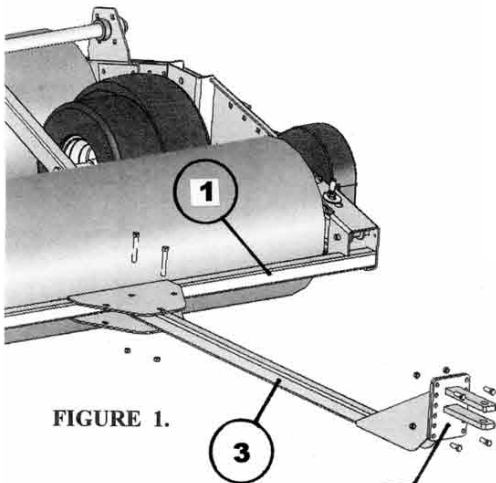

FIGURE 1.
- 1 Assemble Tongue (#3) to Frame (#1) as shown using (2) 3/8-16 x 2 1/2" long carriage bolts with (2) 3/8 serrated lock nuts- Fully tighten (fig. 1)
- 2 Assemble Hitch (#4) to Tongue (#3) as shown using (4) 3/8- 16 x 1" long hex bolts with (4) 3/8 serrated lock nuts- do not tighten at the point (fig 1)